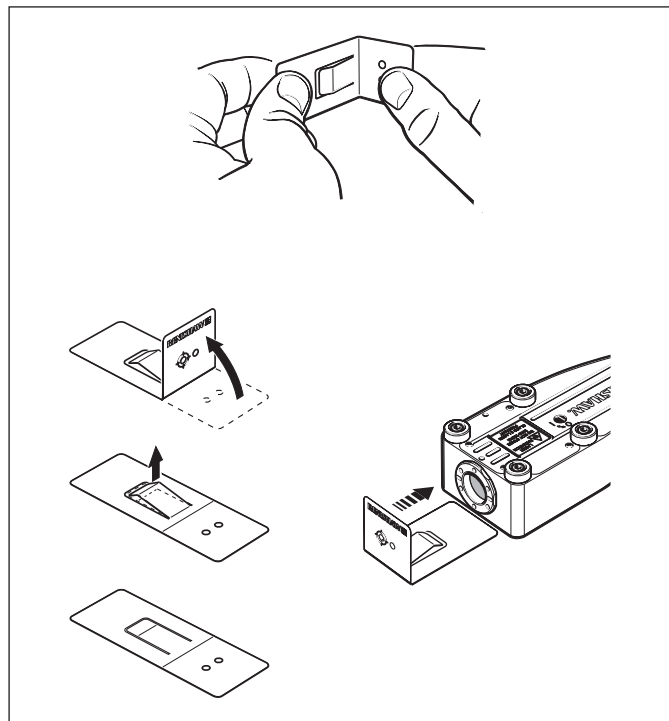

Figure 38 – Metal target
3. Using the metal target provided (see Figure 38), align the beam into the target aperture by adjusting only the pitch and yaw of the detector head.